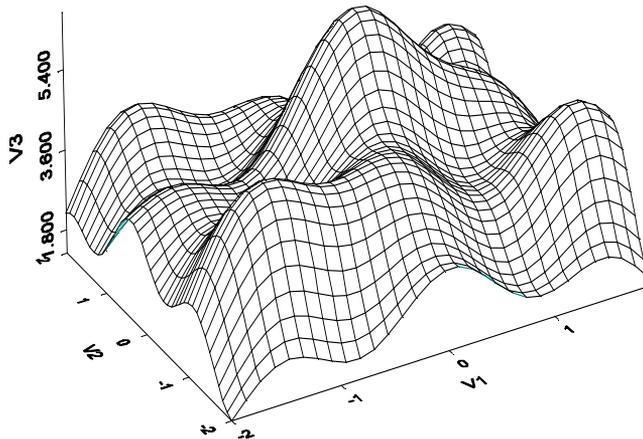

Figure 3.47: Surface plot of the `exsurf` data.
3. Click the **Data Grid Surface** button  on the **Plots 3D** palette. The resulting graph is displayed in Figure 3.47.